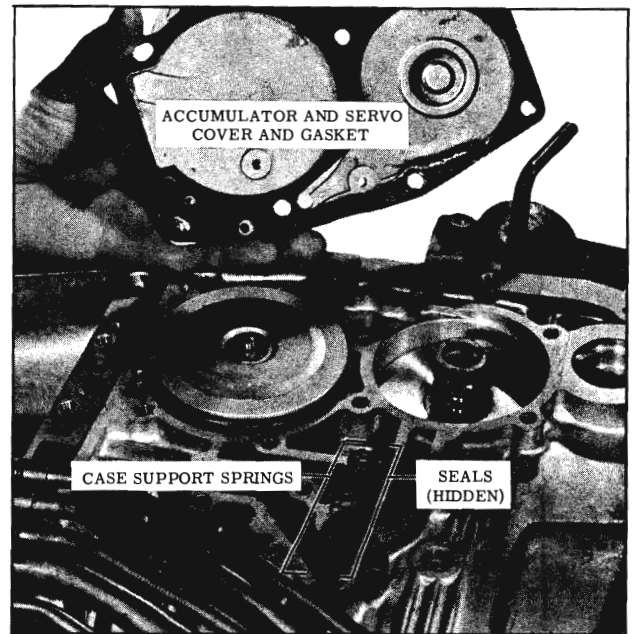

Fig. 3-23 Case Support Springs and Seals
11. Remove the 3 case support springs and seals. (Seals may remain in transmission case). (Fig. 3-23)